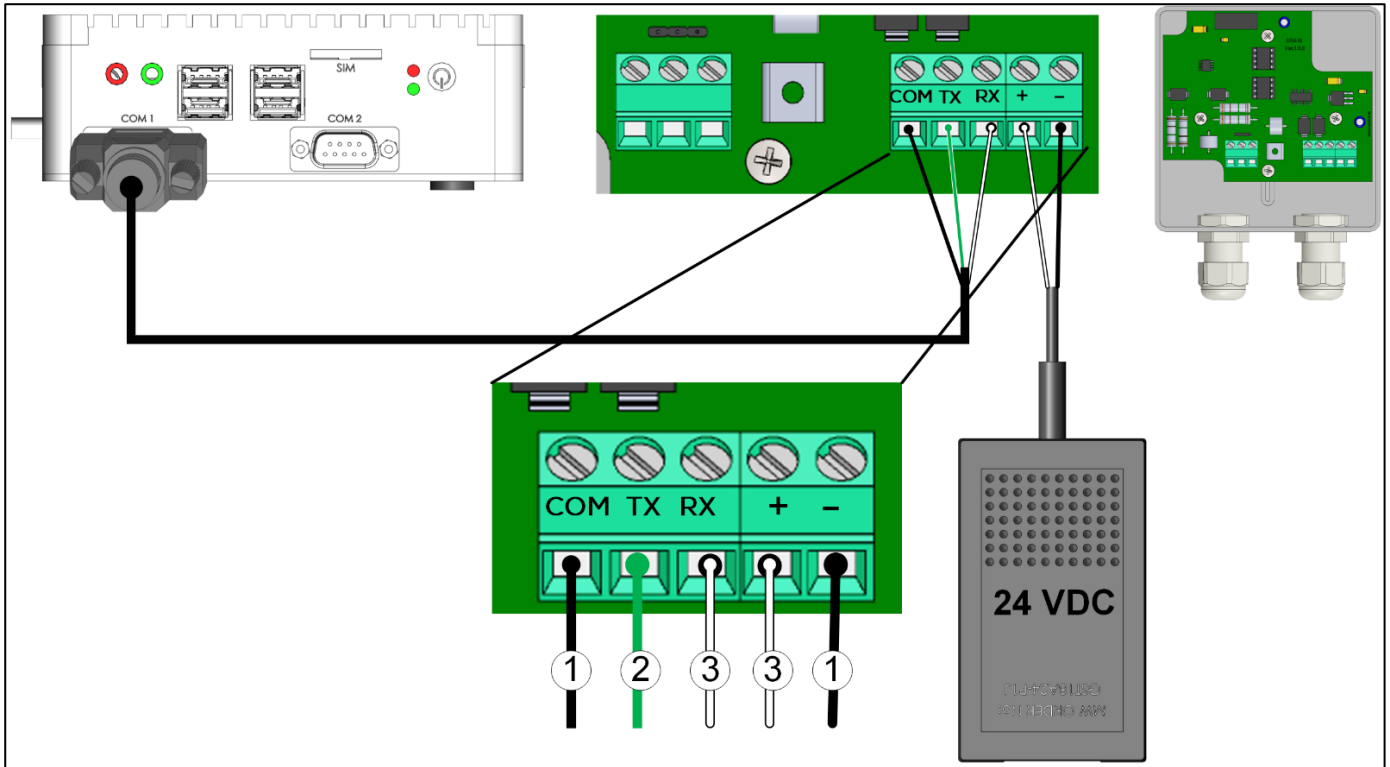

Figure 13: Junction Box to COM Port/Power Supply Wiring
- Plug the cable into the COM 1 port (Figure 13).